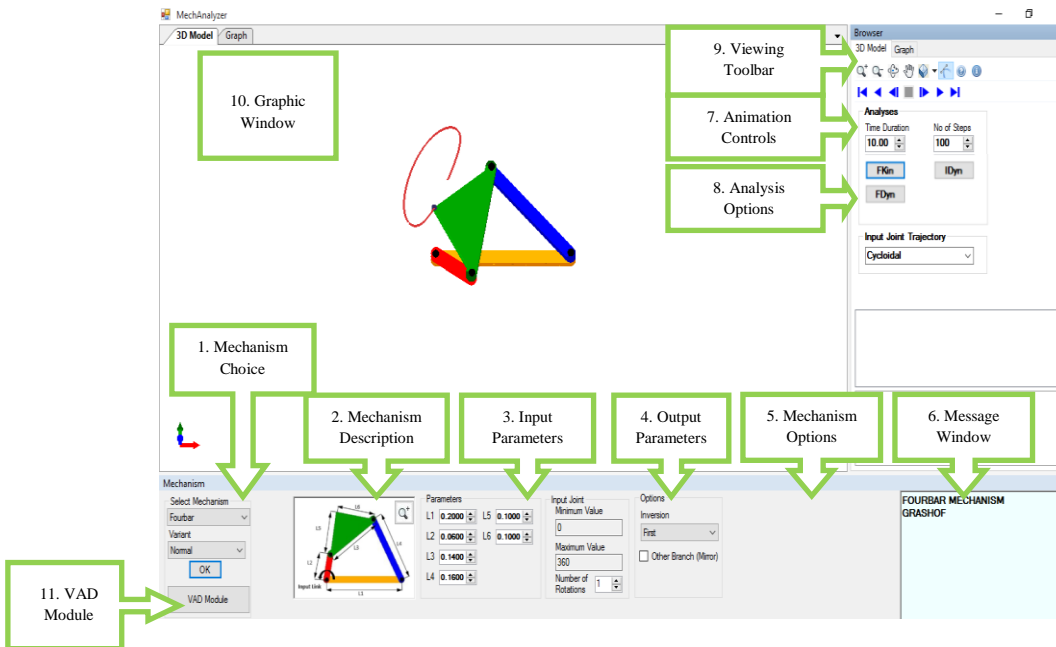

Figure 1: User Interface of MechAnalyzer V4
The version 4.1 of Mechanalyzer has been presented to the user in such a way that the user can easily get started with it. The user interface of the software as shown in Figure 1, can be divided into the following sections:
- The desired mechanism can be selected from the **Select Mechanism** (refer Figure 1) dropdown menu. The corresponding variant if it applies to the mechanism needs to be selected from the **Variant** (refer Figure 1) dropdown menu.